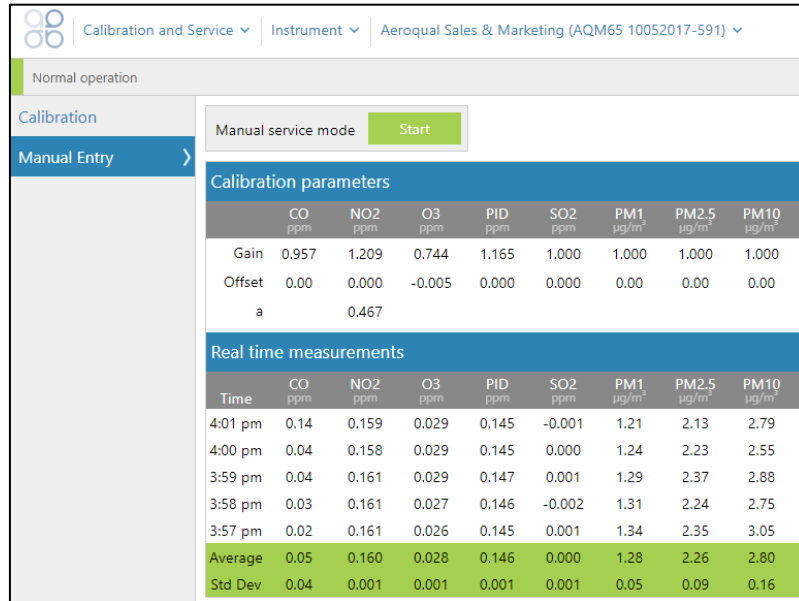

Figure 0-15 The Manual Entry screen of the Calibration and Service app
Set the **a** value in the Manual Entry dialogue in the Service and Calibration App (Section 5.7.5.5), Figure 0-15
- Put the instrument in to Service Mode, Figure 0-15
Aeroqual Connect / Cloud software (Version 1.12 and above), has two sections: “Manual Entry” and “Calibration” The manual entry section is shown in Figure 0-15, it displays all of the offsets and gains for all of the configured sensors, and it displays any additional calibration parameters such as the **a** value which is associated with the NO₂ channel (if you have the O_x/O₃ system). All of the gains, offsets and **a** value can be edited here in the Manual Entry section. This is where the instrument is put into service mode.
If you are using the “Manual Entry” section, Figure 0-15, then the new calculated offset is uploaded by clicking in the appropriate cell, and changing the valve then saving.
This also requires calculating and setting the **a** value, according to Formula 3. The **a** value must be calculated manually and set in the Manual Entry section of the Calibration and Service App, see Figure 0-15